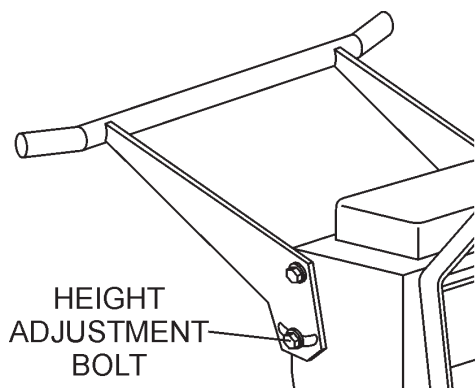

Figure 19. Handle Bar Adjustment Bolts
1. Loosen the height adjustment bolts (Figure 19) on the handle bars until the handle bars can freely pivot.